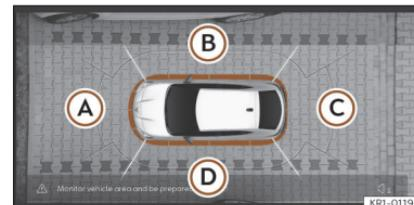

Fig. 150 Display of the Area View system: aerial view.
»»» **Fig. 150:**
The aerial view is generated by combining the images from all the cameras  **Fig. 150**. The top view can be selected by pressing the vehicle inside the zone.
Press on the different areas  **Fig. 150** (A) to (D) of the top view or reduced top view to select and set the corresponding view, which will be highlighted in orange.